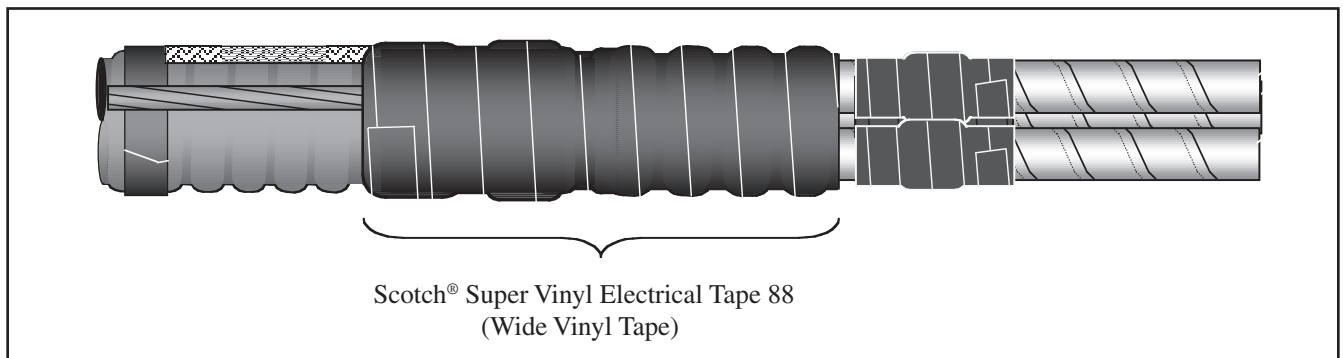

Figure 7
- 3.10 Apply two half-lapped layers of Scotch® Super Vinyl Electrical Tape 88 (wide vinyl tape) over looped ground wire area (Figure 7).